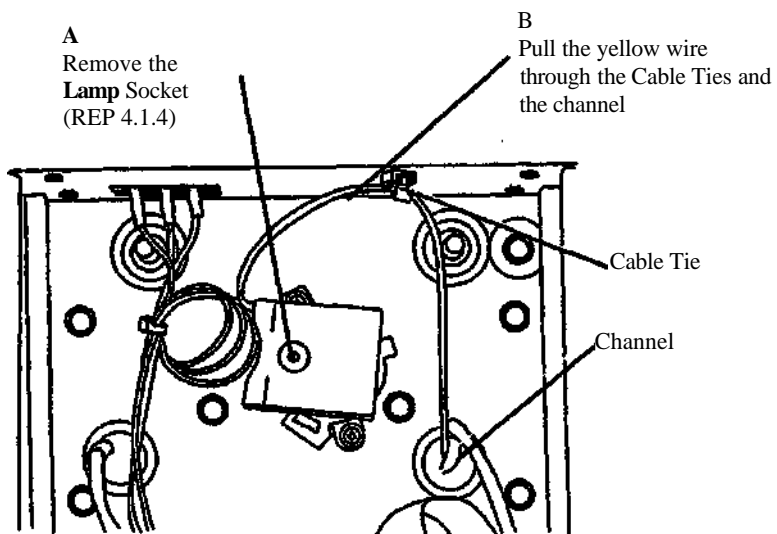

Figure 4. The Routing of the Yellow Lamp Connection Wire
6. (Figure 4): Prepare the yellow Lamp Connection Wire for removal.